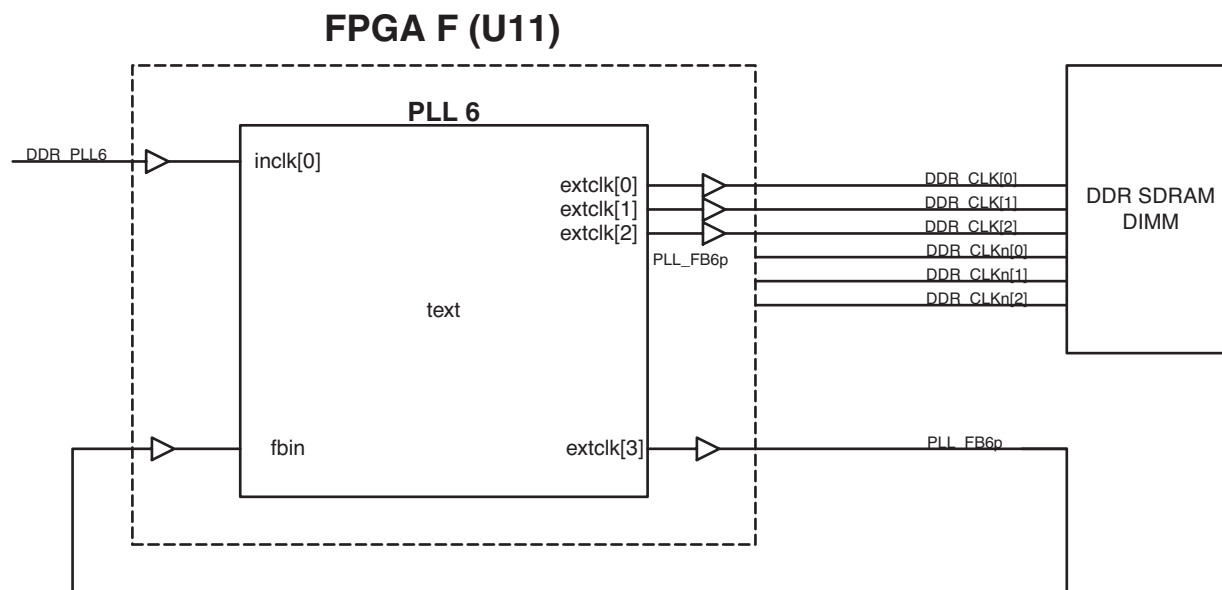

Figure 5-14 DDR PLL Circuit Block Diagram
Header **JP4** allows the user to select which clock the DDR SDRAM runs off of. Figure 5-14 shows the DDR Clock Select Jumper **JP4**. The signal **DDR_PLL6**, which is connected to pin 2 of **JP4** connects to the input of the FPGA's Enhance PLL6. A PLL must be instantiated in the FPGA HDL code to setup the DDR clock signal. This PLL will need to have three (3) output positive differential clocks: one board level clock output used for feedback, one clock input and one feedback input (see Figure 5-14 for a diagram of the DDR PLL circuit).